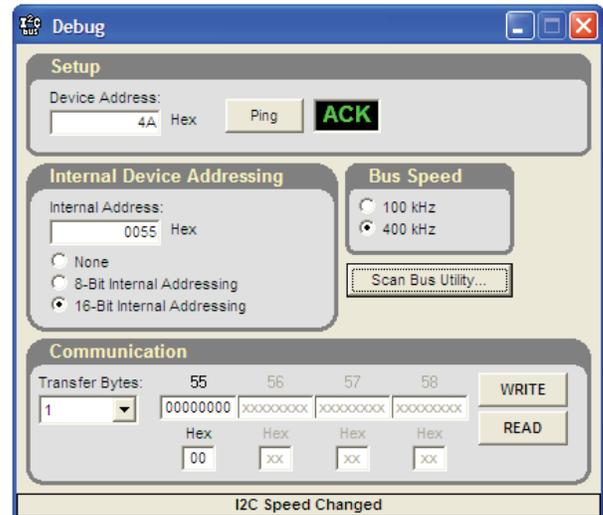

Figure 32. I2C Debug Window
- Click on the **View** menu, and select the **Debug** window. Then, click on **I2C Debug**. The window shown in Figure 32 opens.
- Enter the I2C address set by Jumpers M2 to M0 on the AD9548 evaluation board, and click **Ping**. You should see a green **ACK** message as shown in Figure 32. Repeat this step for the I2C address of the target AD9548. If **ACK** is returned for both addresses, the remote AD9548 is ready to be programmed.